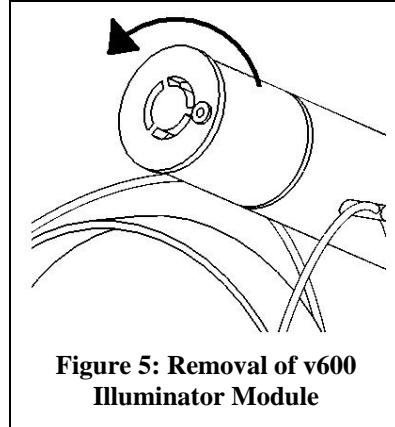

Figure 5: Removal of v600 Illuminator Module
- 4) Remove the old Illuminator Module from the optics tube by rotating it counter-clockwise as shown in Figure 5.